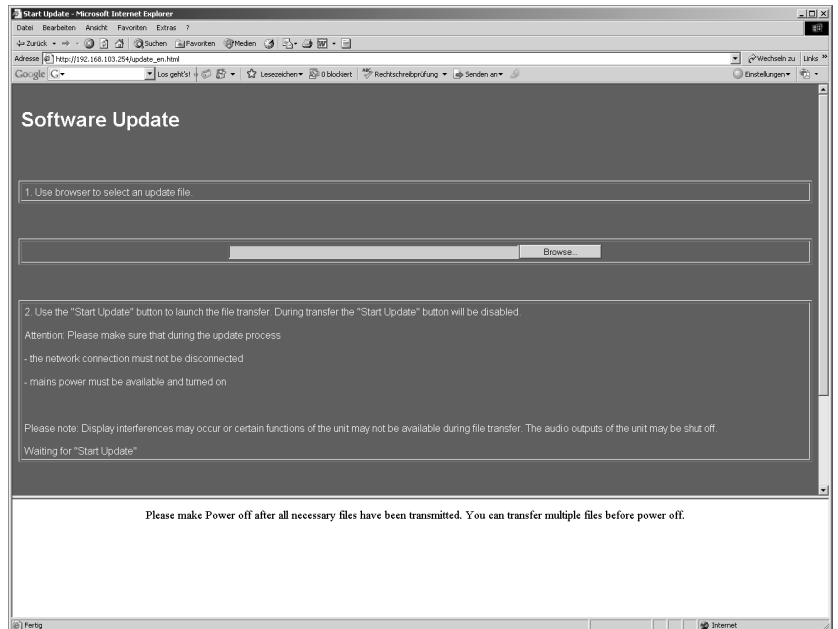

Fig. 8-8: End of the data transfer of the selected file
8. The download is finished when the message "Please make power off after all nessecary files have been transmitted. You can transfer multiple files before power off" is displayed (see Fig. 8-8). Please do **not** switch off the SurroundMonitor units but proceed with step 9.
9. Use the displayed dialog (see Figs. 8-8 and 8-3) to select (Browse ...) the **second** of the four update files.
10. Use the displayed dialog (see Figs. 8-8 and 8-3) again to select ("Durchsuchen") the **third** of the four update files.